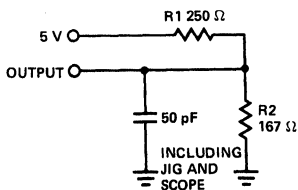

Figure 1a
5. See Figure 1a for all switching characteristics except tHZ.